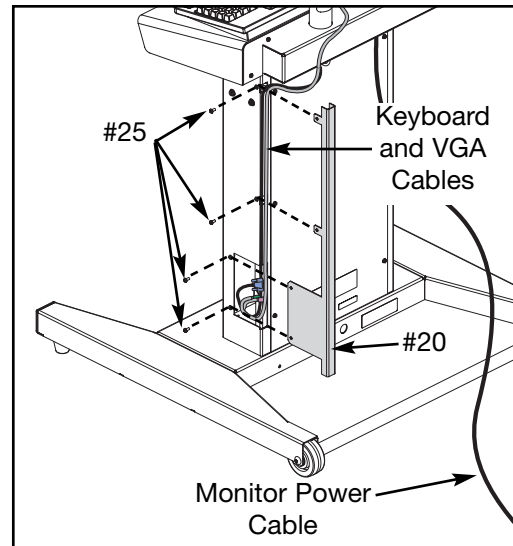

Figure 11
- B. Guide the keyboard and VGA cable into the channel in the cable access cover (#20). **NOTE:** The monitor power cable will stay outside the cabinet. See Figure 11.
- C. Using the Phillips head screwdriver (#28) secure the cable access cover (#20) to the cabinet with four screws (#25). See Figure 11.